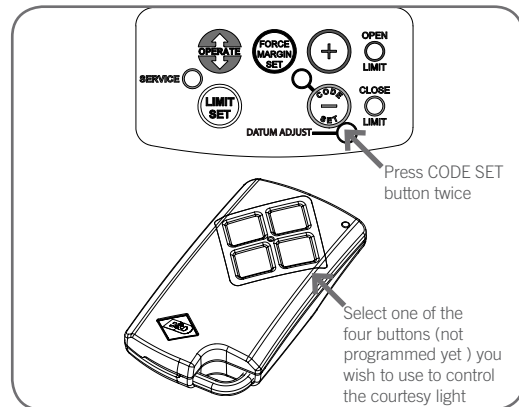

Fig. 34
- Press the CODE SET button twice. The CODE SET LED will illuminate and the courtesy light will turn on to indicate that the light code learning is active (**Fig. 34**).